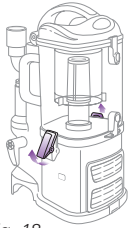

Fig. 18
- Undo the latches on the sides of the dust cup by lifting them up and outwards to remove the dust cup from the motor base. **(Fig. 18)**